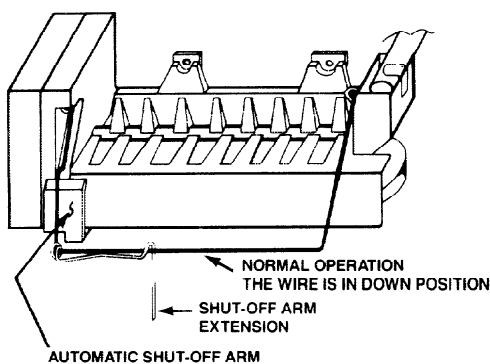

FIGURE 33
1. **Normal Operation:** the wire arm is in the down position; ice will be made. See Figure 33.